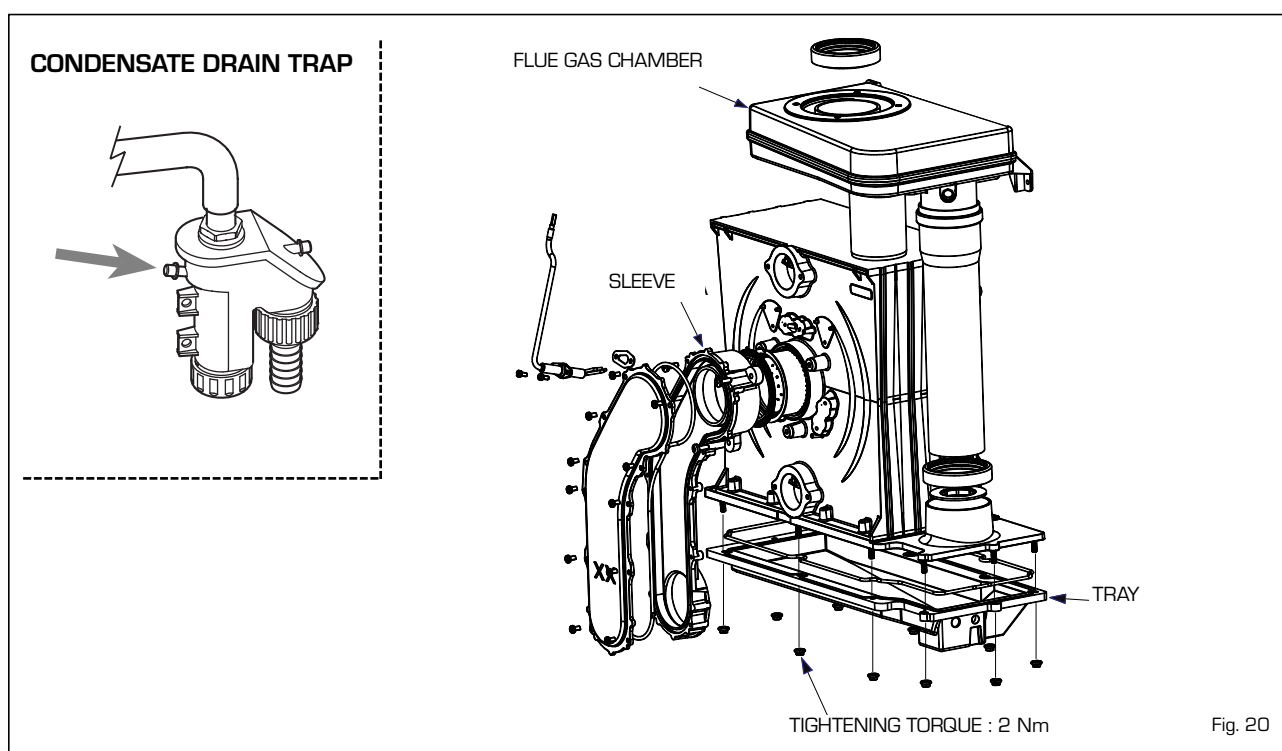

Fig. 20
4.5 MAINTENANCE (fig. 20)
To guarantee the operation and efficiency of the appliance and to conform to any extended warranty, it must be serviced regularly, dependant on usage, but at least annually by a qualified Gas Safe Registered engineer. **During maintenance operations, it is important to verify that the condensate trap contains water (this check is particularly important if the generator has not been used for extended periods of time). If necessary, the condensate trap can be filled using the filling point provided (fig. 20).** Instead, to clean the exchanger and the burner, do in the following way (fig. 20):